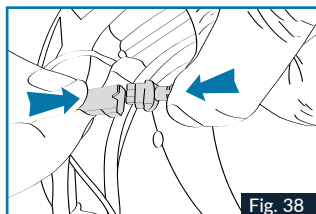

Fig. 38
10. Make the battery connection (black 3-branch connector), and the keypad as shown in Fig. 38.